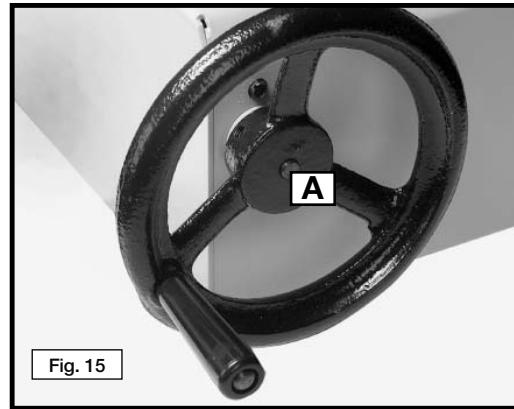

Fig. 15
To raise the feed table, turn the handwheel (A) Fig. 15 counter-clockwise. To lower the feed table, turn hand-wheel clockwise.